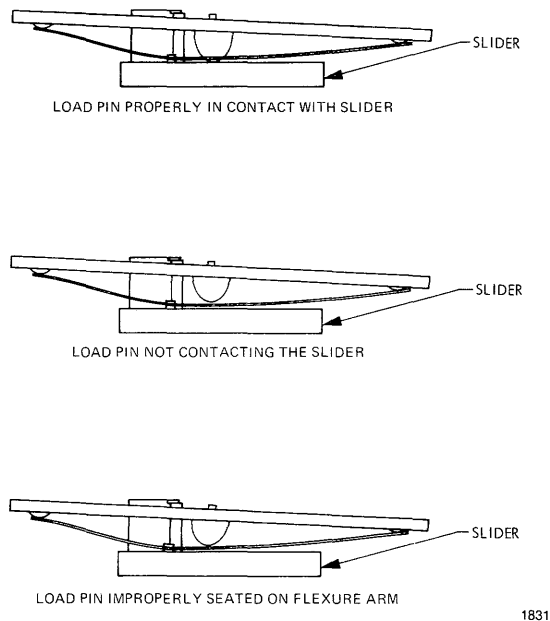
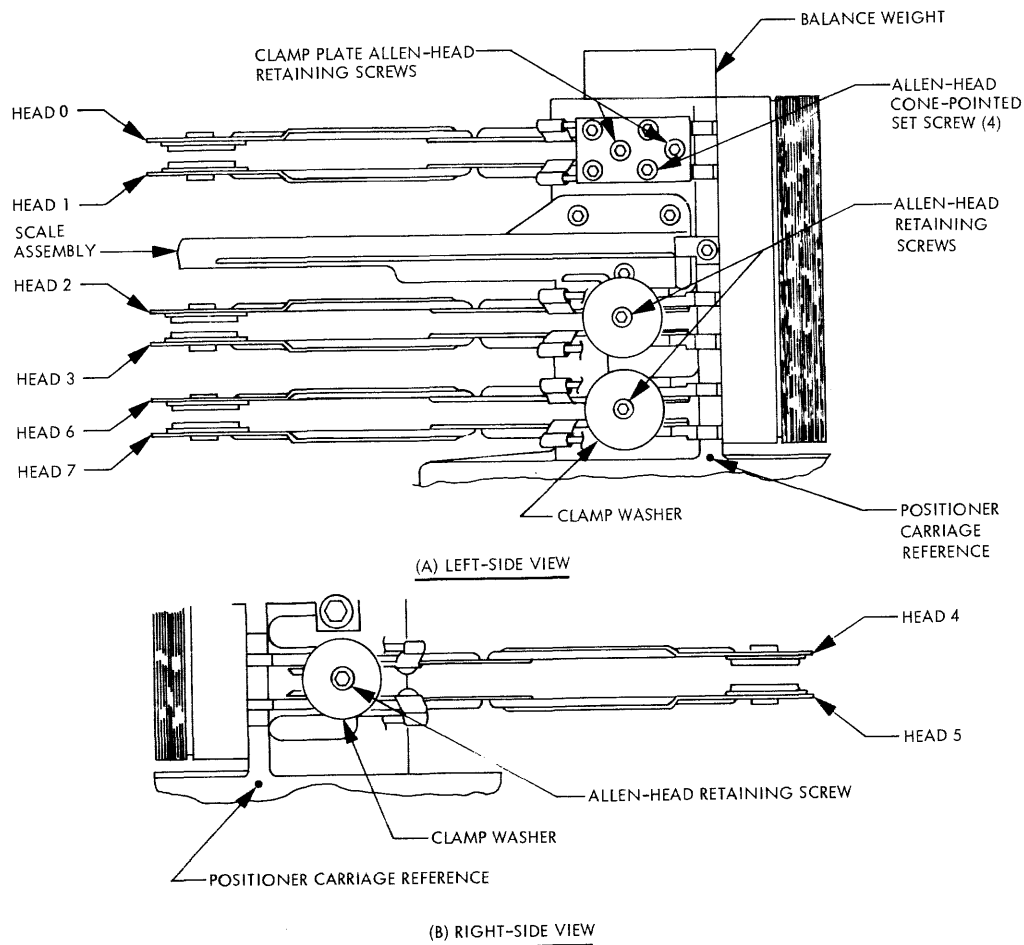

Figure 6-42. Load Pin Seating
Figure 6-43. Heads Installed on Positioner Carriage
Proper seating of the load pin is essential to ensure gimbaling and flying characteristics of the ceramic slider. Examples of correct and incorrect positions of the load pin are shown in Figure 6-42.
- (5) Disconnect all connectors from the Read/Write PCBA and Read/Write Selection Matrix PCBA; remove only the Read/Write PCBA from the drive.
- (6) Prepare four lint-free pads, approximately 1-inch square and 1/8-inch thick. Lay a lint-free wipe on a clean flat surface on which to lay the heads when they are removed from the carriage.
- (7) Refer to Figure 6-43 for parts identification.
- (8) Insert between the ceramic sliders of each pair of heads the pads prepared in Step (6); these pads will protect the ceramic sliders from clashing together as they are being removed.
- (9) Install positioner tie-down screw to anchor the positioner carriage.
- (10) Loosen the four recessed Allen-head cone-pointed setscrews in the clamp plate to a position where the point of each screw is recessed below the surface of the clamp plate.
- (11) Loosen the two Allen-head retaining screws from the clamp plate. Remove the clamp plate and screws from the carriage.
- (12) Loosen and remove the Allen-head screw and clamp washer from each of the remaining three pairs of head-support arms that are anchored to the carriage (see Figure 6-43 A and B).
- (13) Remove the heads in the following sequence: head 0 (top), head 1 (second), head 2 (third), head 3 (fourth), head 6 (fifth), head 7 (sixth), head 4 (seventh), and head 5 (eighth).
- (3) Examine the ceramic slider of each head for cleanliness. Also inspect gimbal spring and slider pivot for proper alignment. Refer to Figure 6-42.
- (4) Prepare four lint-free wipe pads, approximately 1-inch square and 1/8-inch thick; these pads will be used to separate each pair of heads to prevent possible damage to the ceramic slider during installation.
- (5) Note that there are two V-shaped indentations on the side of the die-cast support arm. Fore and aft head alignment of several thousandths of an inch can be made when the pointed screws in the clamp plate engage with the V slots in the support arm. Figure 6-43 illustrates the support arm used in all models.
- (5) Firmly press the support arm back against the carriage surface and at the same time position the flange of the head on the underside of the lower ramp.
- (6) Place a lint-free wipe protective pad on the ceramic slider.
- (7) In succession, install the other heads in the manner described in the preceding steps (refer to Figure 6-43(A) and (B) for head identification).